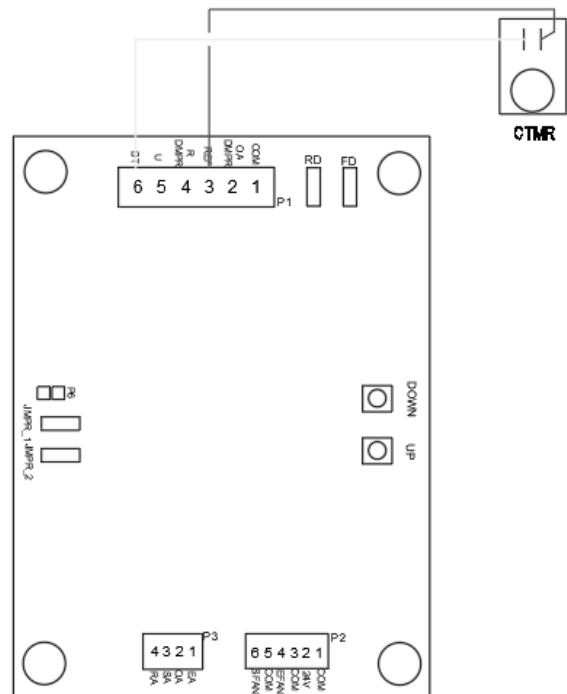

Figure 29 - Version 1 (Egg Timer/Analog Connection)
4. Connect the LOAD side of the timer switch to the BT terminal wire on the P1 terminal of the ERV Controller [See **FIGURE 29 - Version 1 (Egg Timer/Analog Connection)**].